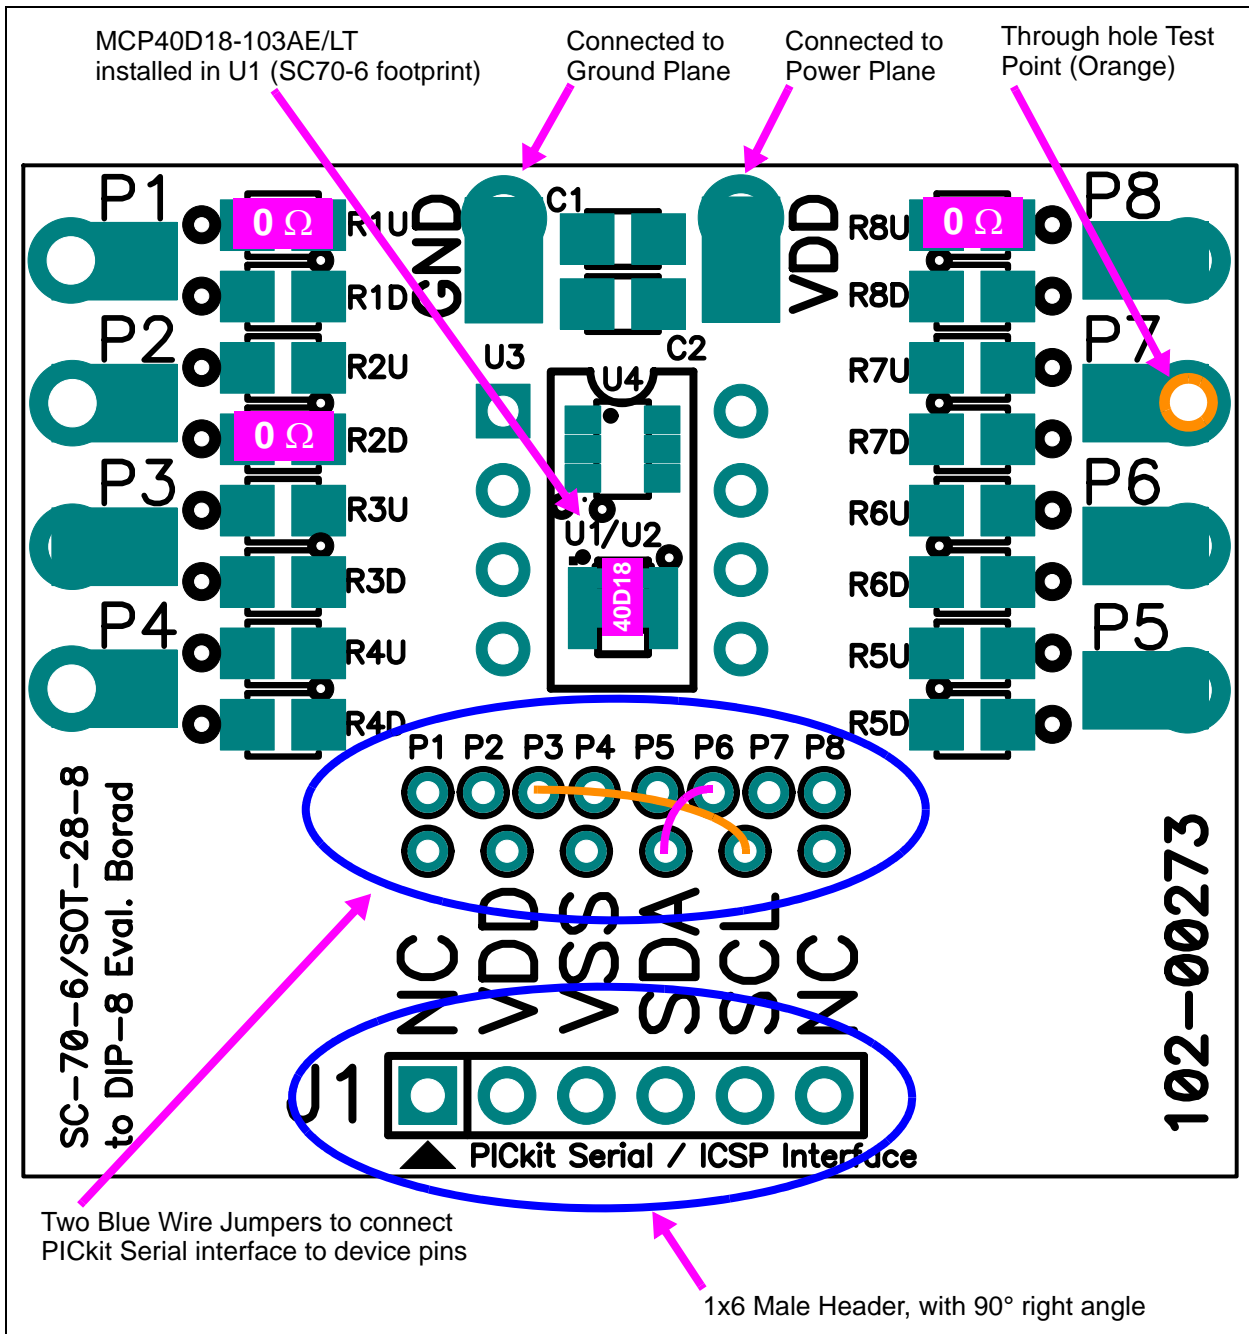

FIGURE 2-2: MCP401XEV Evaluation Board Component Placement Using the SC70EV Evaluation Board (Top).
Additional information on using the SC70EV Evaluation Board PCB or for modifying the MCP401XEV board is available in the SC70EV User's Guide (DS51874). **Appendix A. "Schematic and Layouts"** has information on the PCB schematic and layout while Figure 2-2 shows components that are installed on the PCB.
- 0Ω resistors connect MCP40D18 VDD and VSS signals to the appropriate Power or Ground plane (see Figure 2-2)
- 0Ω resistors connect MCP40D18 A terminal signal to Power plane, Resistor Network is in a voltage divider configuration (see Figure 2-2)
Figure 2-2 shows the component layout of the MCP401XEV Evaluation Board. This is a small four-layer board (1.43" x 1.255" (36.322 mm x 31.877 mm)). There are ten connection points/pads that can use either through-hole or surface-mount connector posts.